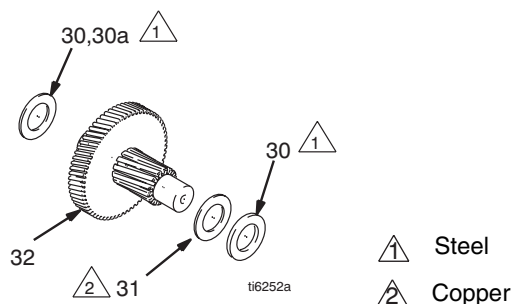

FIG. 3
2. FIG. 3. Ensure thrust washers are on combination gear (32) as shown.
4. Align gears and push new drive housing straight onto pinion housing (29) and locating pins (B).
5. Install six screws (38).
6. Install gallon counter sensor (39) with two screws (108).